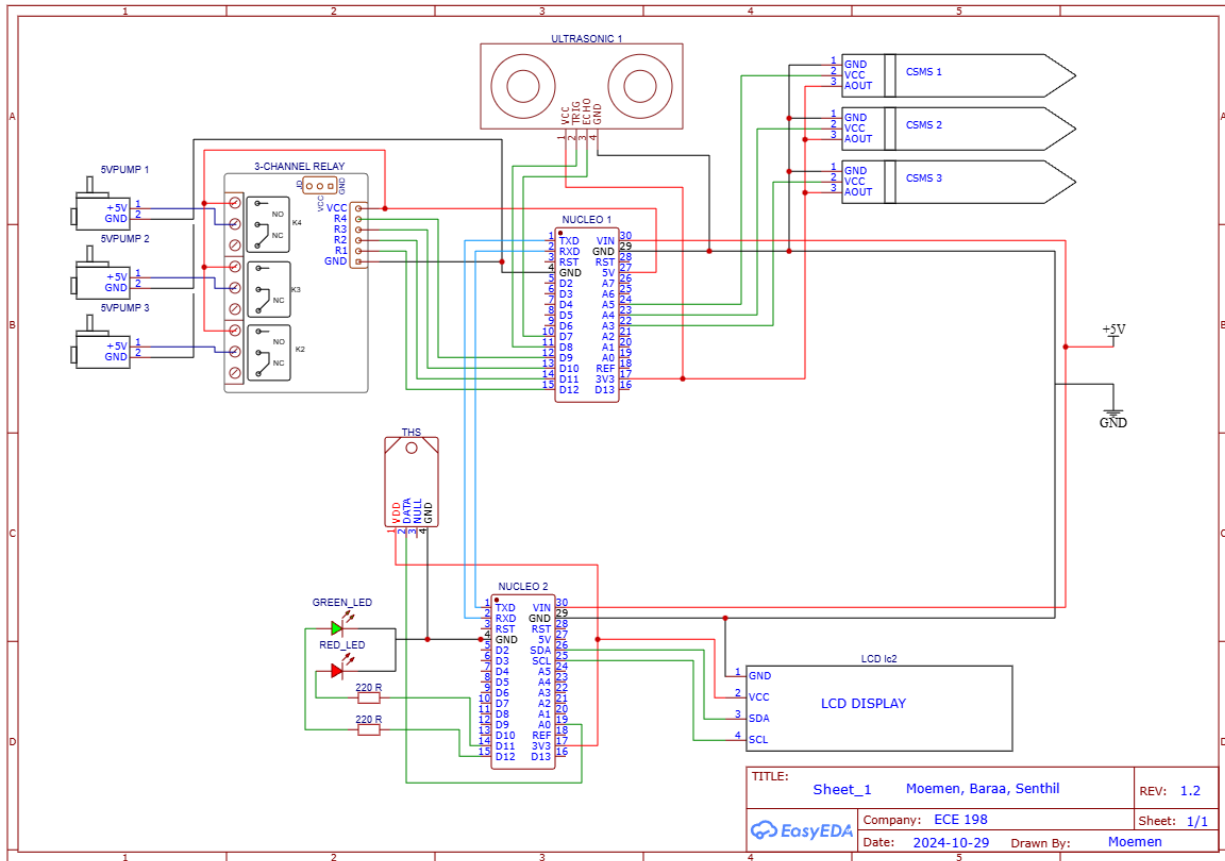
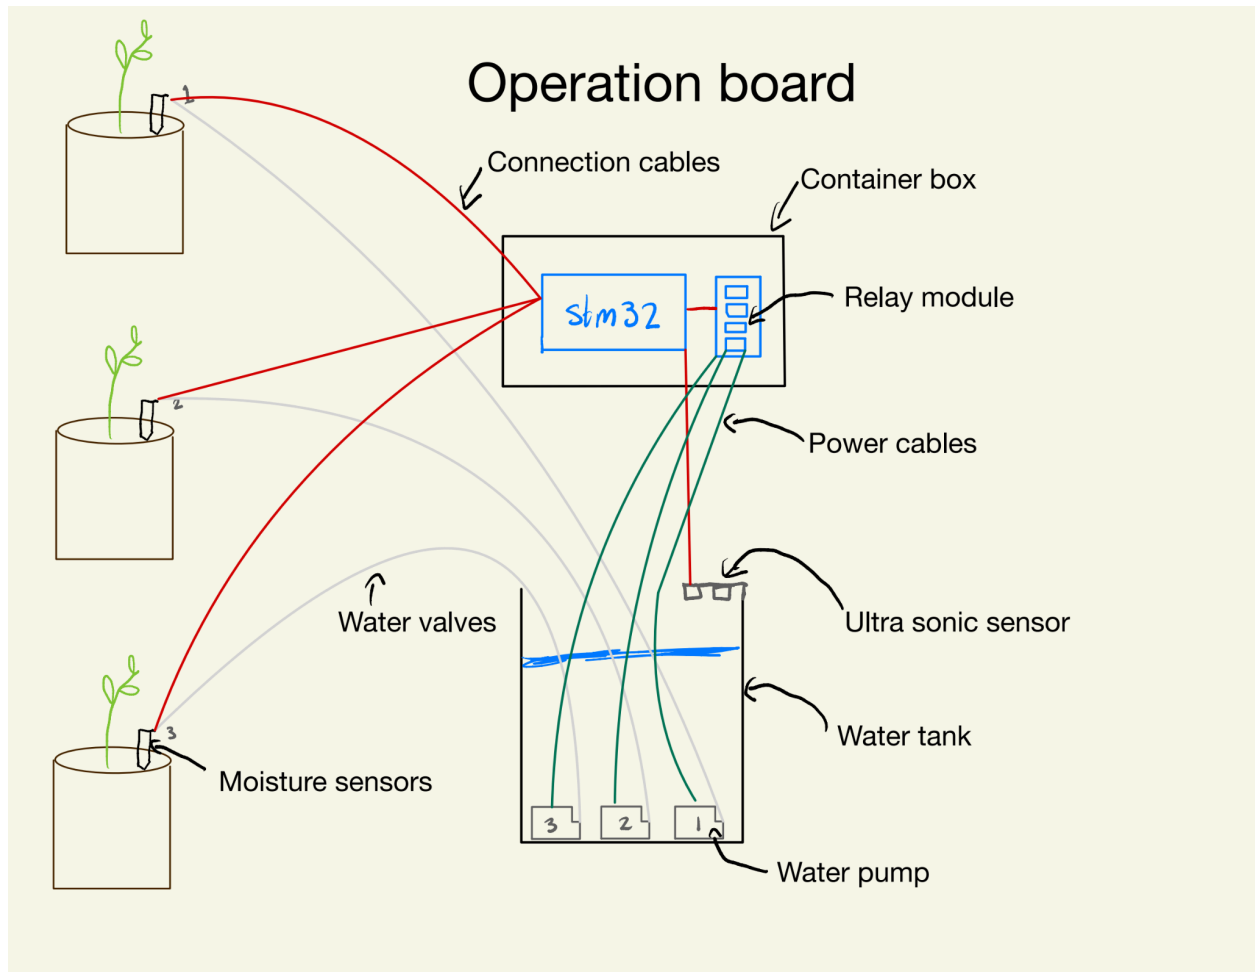
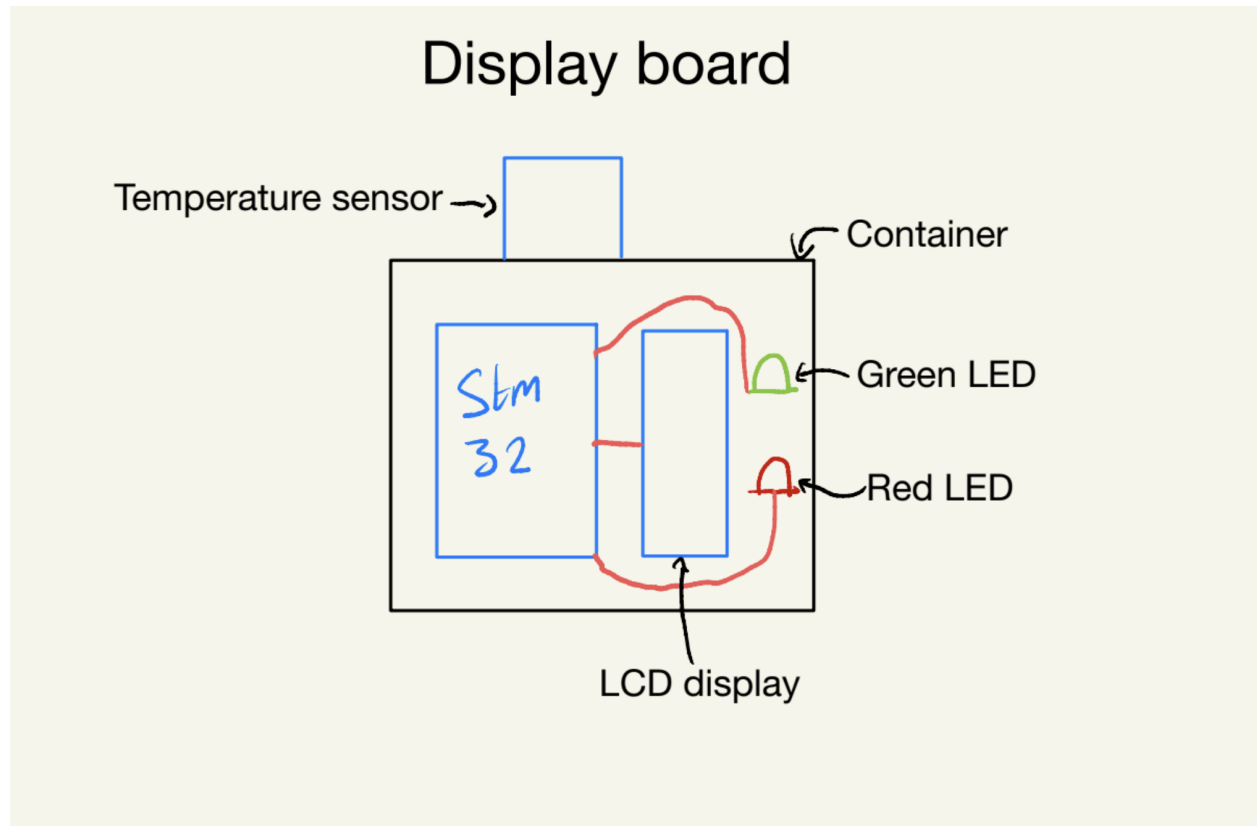

Figure 1
Figure 2
Figure 3
The water tank will have three water pumps(5V, 0.18A) inside of it which will be connected to the plants through the water valves and to the relay module on the 1st STM32 microcontroller through power cables(Figure 2), which is placed inside of a container box. The ultrasonic sensor(5V) will be placed above the tank attached to the top of its side and connected to the 1st STM32 microcontroller through a wire(Figure 2). The LCD display and LEDs will be connected to the 2nd
microcontroller to display the output of the system(Figure 3). The temperature sensor will also be connected to this microcontroller(Figure 3). The first STM32 will be connected to the second STM32 through a wire, the soil moisture sensor(input: 4.4-6V, output: 1.9-3.15V) inside of the soil where the plants are laid, and also connected to the water pumps inside of the water tank.
All of the components with quantified requirements from the previous section are included in Figure 1, Figure 2 and Figure 3.
3. Put the Soil moisture sensors into the plant pots (figure 2)
4. Plug the one of the 3 water valves into the water pumps, then put it into the plant pot with the corresponding number on the moisture sensor and water pump (figure 2)
5. Fill the water tank to the marked line (figure 2)
3. To see the current temperature of the room check the LCD for information(figure 3)
4. The two LEDs connected to the beside the LCD display will inform you of there is water in the tank(figure 3)
5. If the green led is on then your product is fully operational(figure 3)